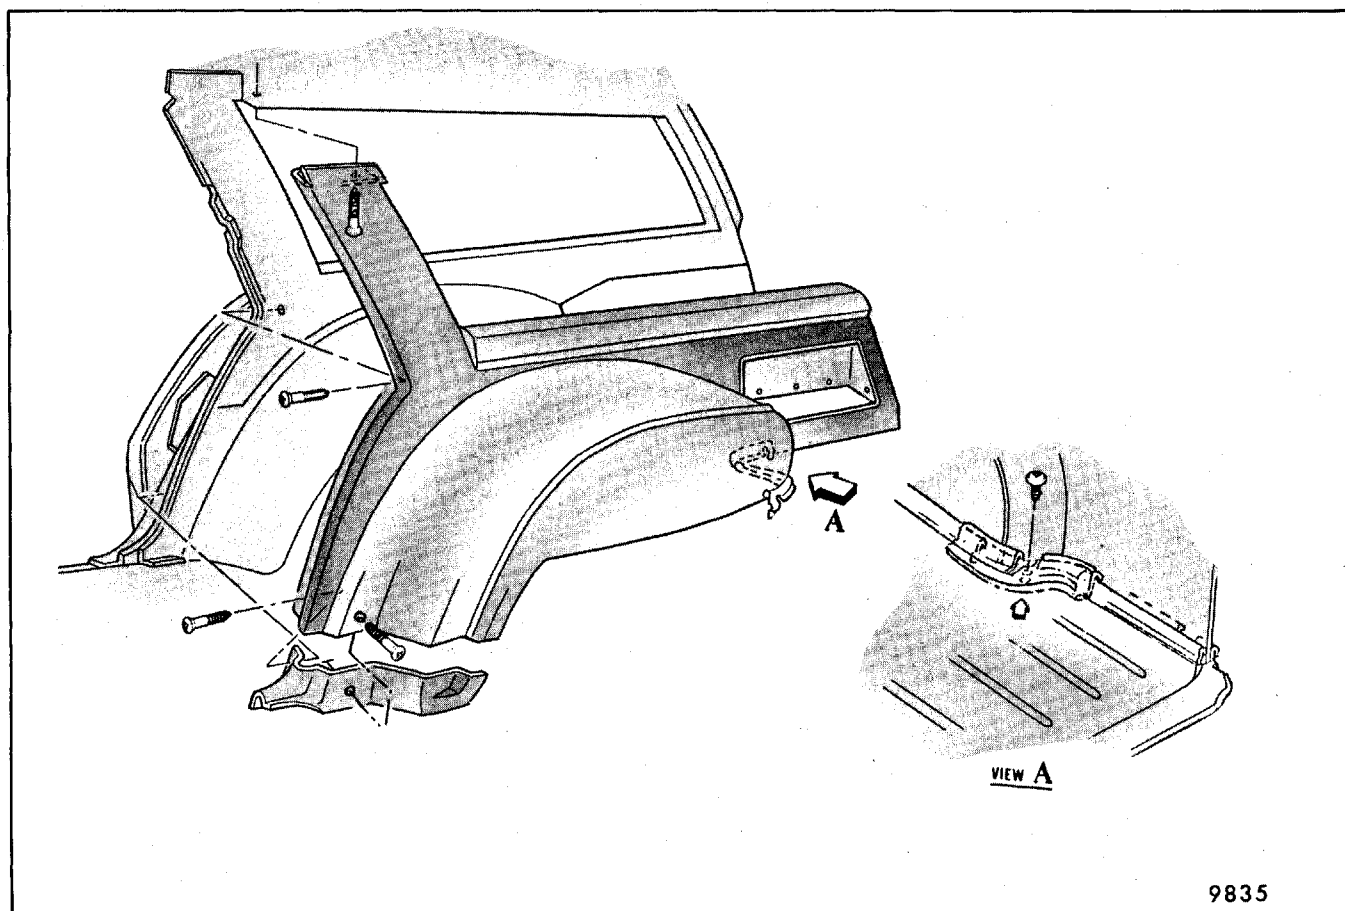

Fig. 6-23-Wheelhouse Trim Cover Panel - A Station Wagon Styles
Removal and Installation (Refer to Fig. 6-23)
2. Remove screws retaining trim panel as shown in Figure 6-23.